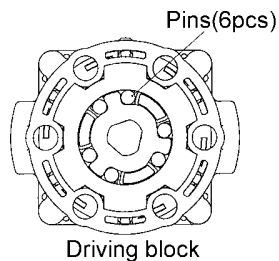

Fig. 10
2. Start from inserting 6 pins into the driving block as shown in the Fig. 10.